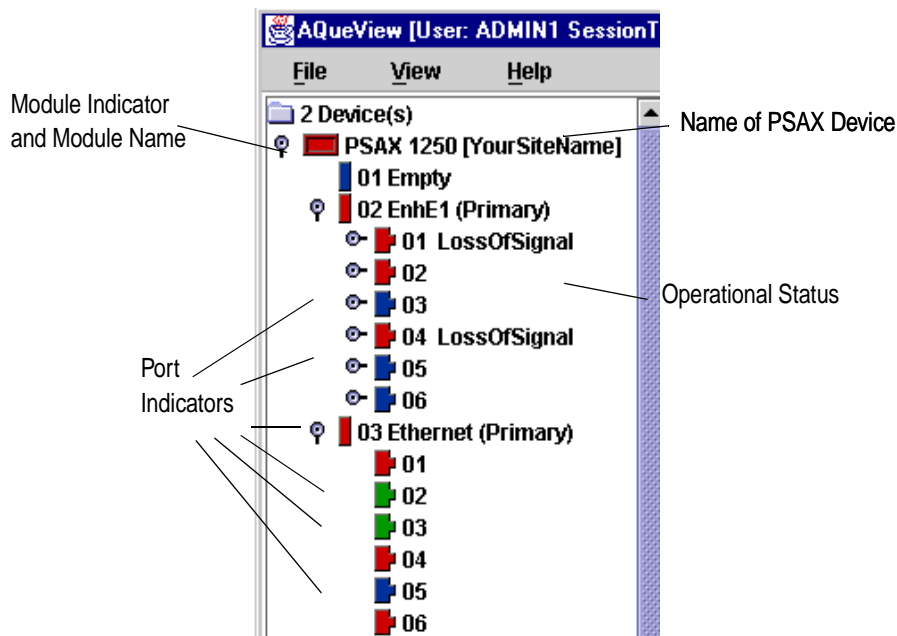

Figure 5-18. Device Tree Status Indicators
- View at the status indicators in the Device Tree (see Figure 5-18)